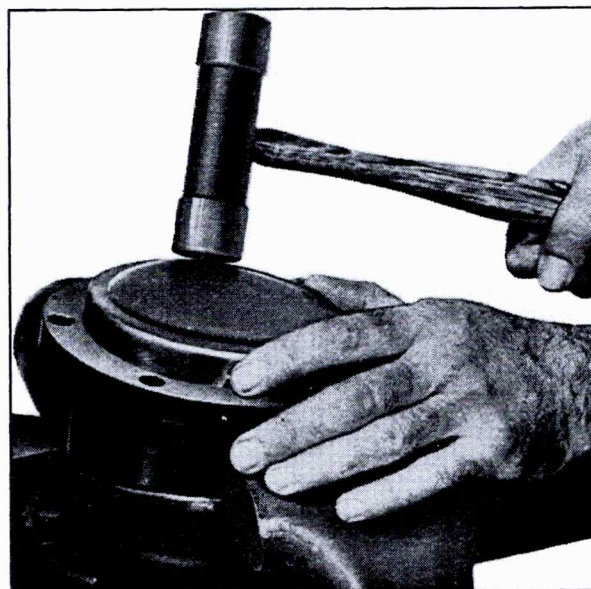

Fig. 3-70 Installing Tri-Pot Housing End Cover
18. Seat cover in housing by tapping around outer edge of cover with a plastic mallet, Fig. 3-70.